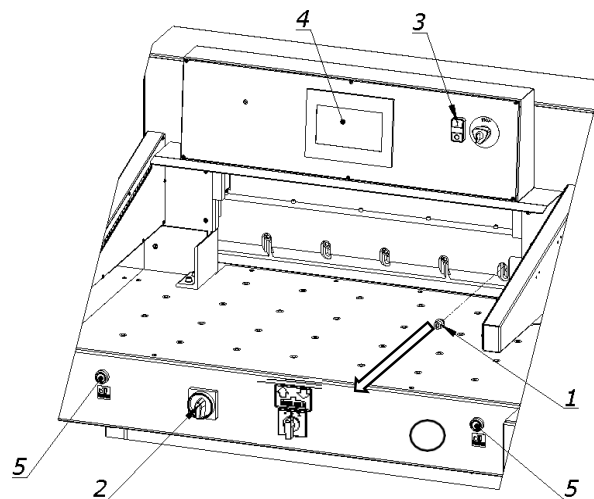

Figure.23
8.1.1.3 Unscrew and remove the first fastening screw (1) from the right side of the cutter bar (Fig. 23).
8.1.2.8 Press the "knife change" function on the touchscreen control (3, fig.23)
8.1.2.21 Turn on the power supply to the control system by pressing the green push button (3, fig.23).